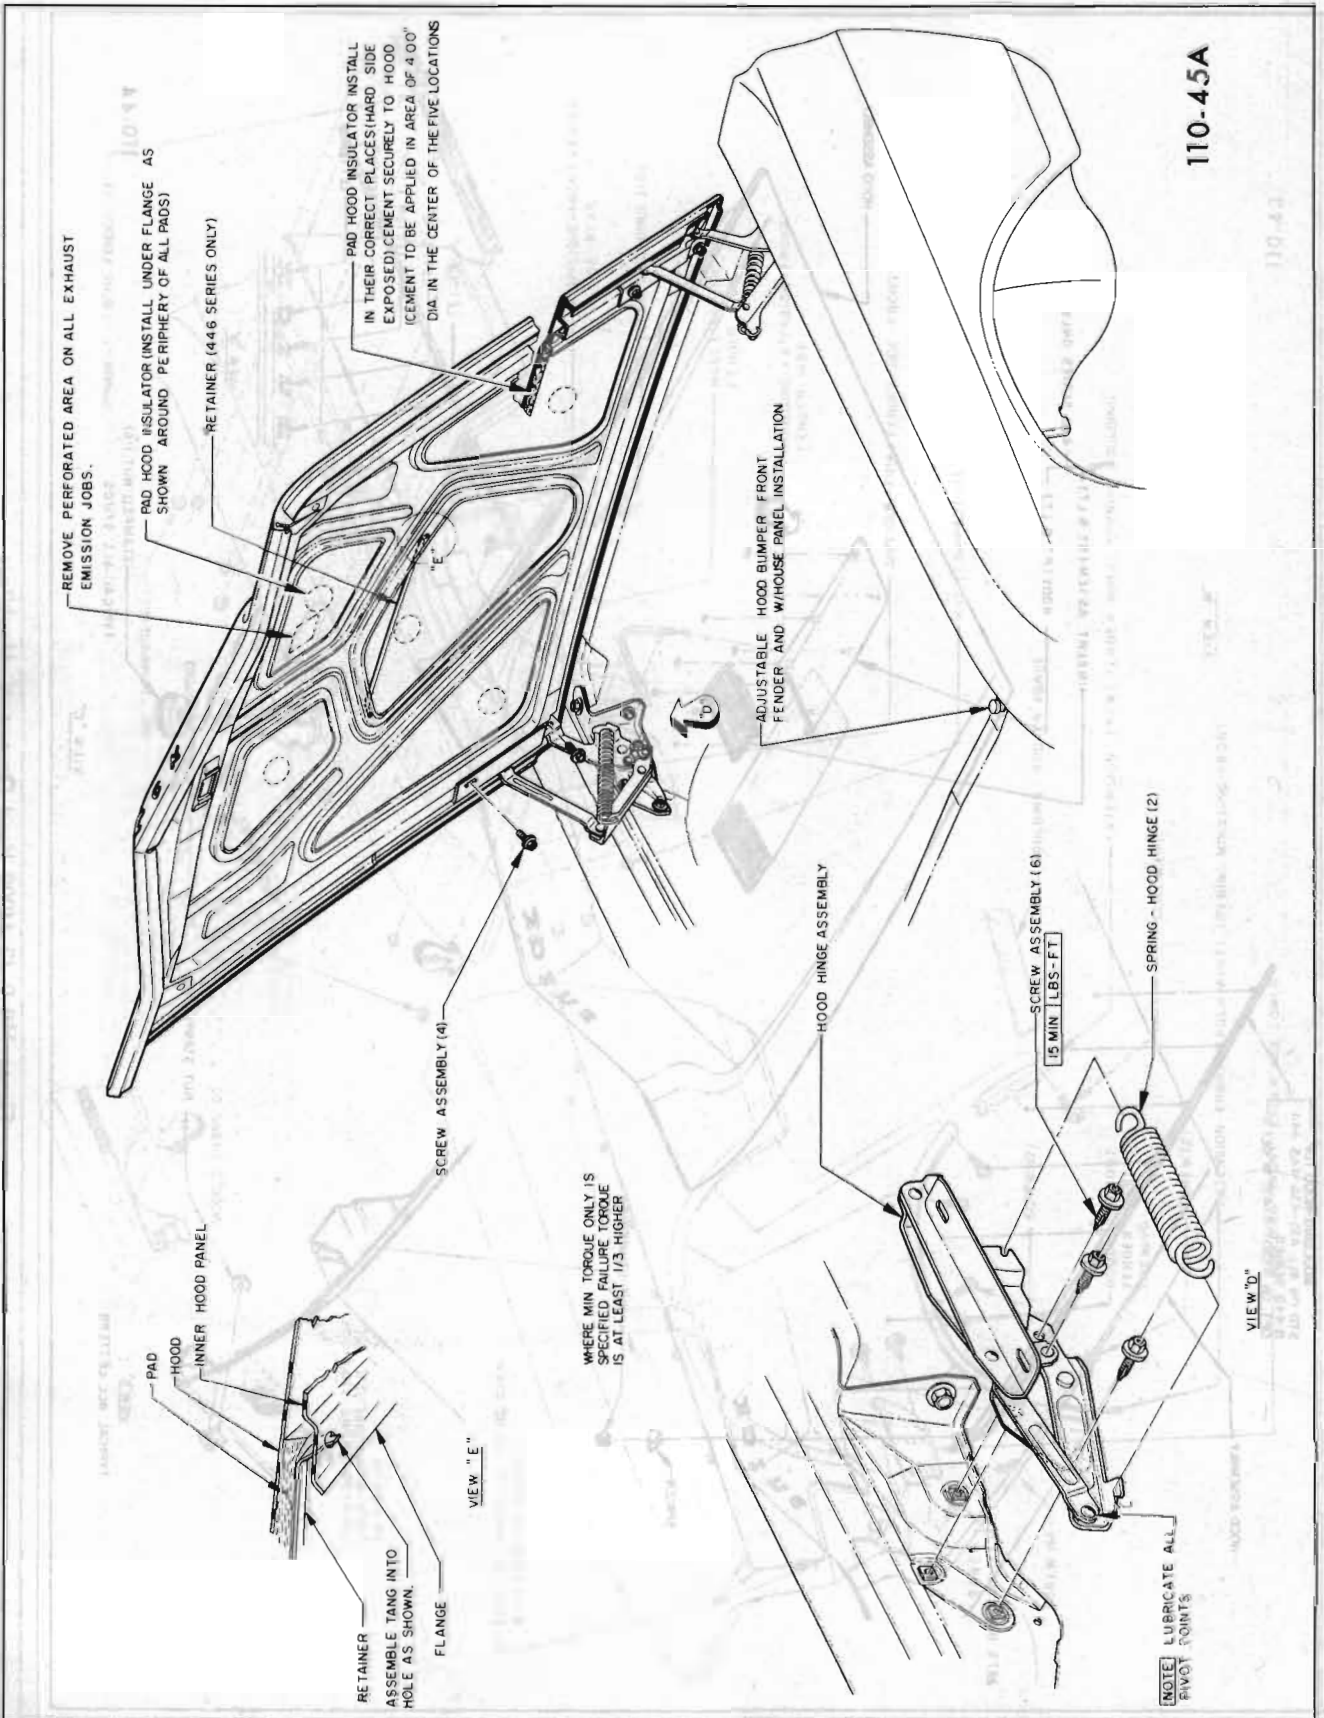

Figure 110-10 43-44000 Hood, Hood Hinge
The rear of the hood assembly is attached to the fender on each side by hinge assemblies which permit the front of the hood to be raised. A heavy coil spring connected between each hinge assembly assists in raising the hood and holds it in the open position. See Figures 110-10 and 110-11.
3. Scribe position of the hinge attachment on fender. Remove the three bolts attaching the hinge to the fender and remove the hinge. See Figure 110-10.